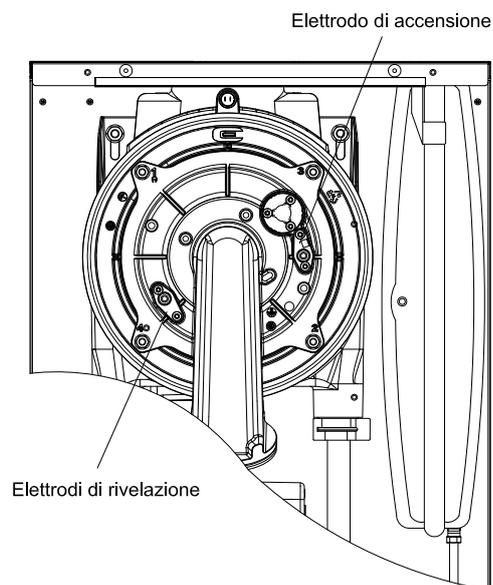

Fig. 30
7.2 - SOSTITUZIONE ELETTRODI (Fig. 30)